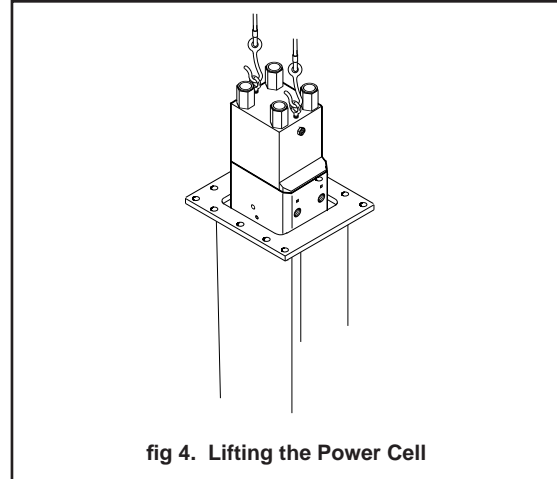

fig 4. Lifting the Power Cell
14. Install a lifting eye into each of the threaded holes located in the top of the main accumulator (1). Using slings and a hoist, lift the breaker out of the housing and set it on a flat surface in a vertical position. Keep the slings attached. (See figure 4)